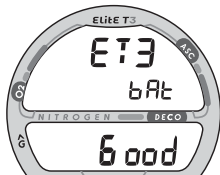

Fig. 4 - Battery Status (Good)
- 2 seconds later, the VT3's Battery status will be displayed for 3 seconds (Fig. 4), then -